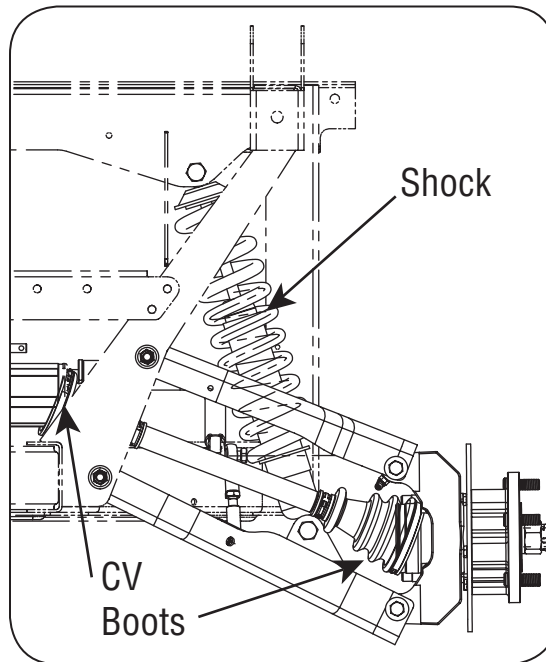

Figure 10
1. Inspect the front and rear shocks every 100 hours or once a year for oil leakage. See Figure 10. If excessive oil leakage appears, have shocks repaired or replaced by your local Cub Cadet dealer.
1. Inspect CV boots (two on each CV joint axle end, eight total) for tears every 50 hours. See Figure 10. If tears or excessive wear appear, have boots replaced by your local Cub Cadet dealer.